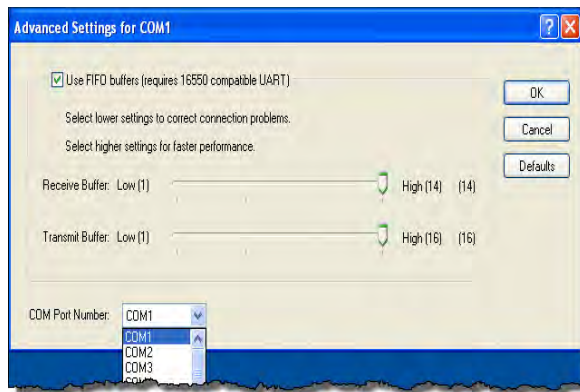

Figure 7
- In the Advanced Settings window, click the down arrow on the **COM Port Number** box and select **COM1**. (Figure 7)